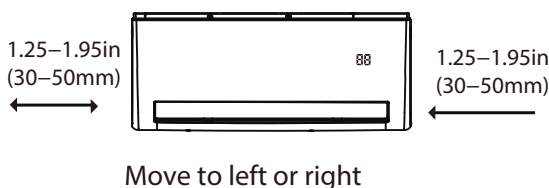

Fig. 13 — Hook Indoor Unit to Mounting Plate
1. **Hook the indoor unit on the mounting plate.** Keep in mind that the hooks on the mounting plate are smaller than the holes on the back of the unit. If you find that you do not have ample room to connect the embedded pipes to the indoor unit, the unit can be adjusted left or right by about 1.25–1.95in. (30–50mm), depending on the model (see Fig. 13).